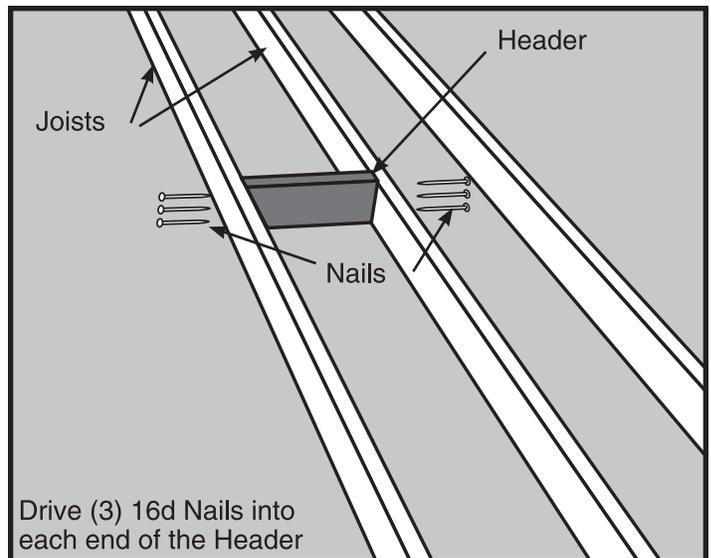

Figure 12
- STEP 3.** Place one of these headers at one end of your chosen location (See Figure 12). The header must fit snugly between the joists. Hammer it into position if necessary; if it is more than 1/16” too long, trim it. If it is more than 1/16” too short, cut another piece.
- STEP 4.** Square the header to one joist and drive (3) 16d nails through the joist and into the header. Check for squareness and drive (3) 16d nails through the other joist and into the header (See Figure 12). **It is very important that header board is vertically plumb as well as horizontally square to side joists.**